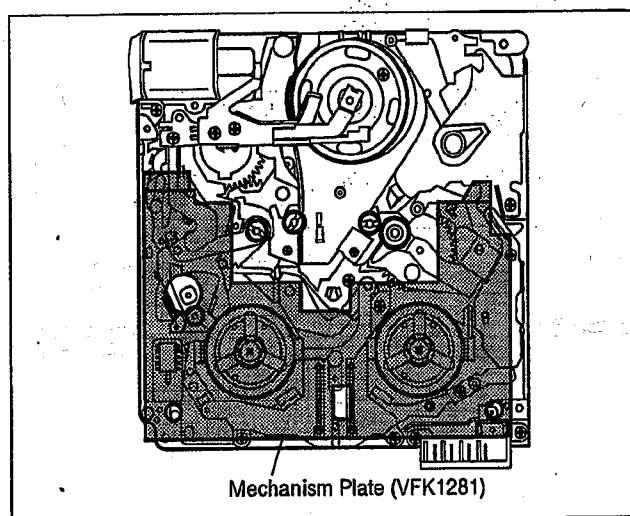

Fig. A9
3. Set the Mechanism Plate on the Mechanism Chassis as shown in Fig. A9.
1. Turn the adjustment screw (A) on top of the Supply or Take-up Reel Table fully clockwise. Then, place the Mechanism Plate on the Mechanism Chassis as shown in Fig. A9.